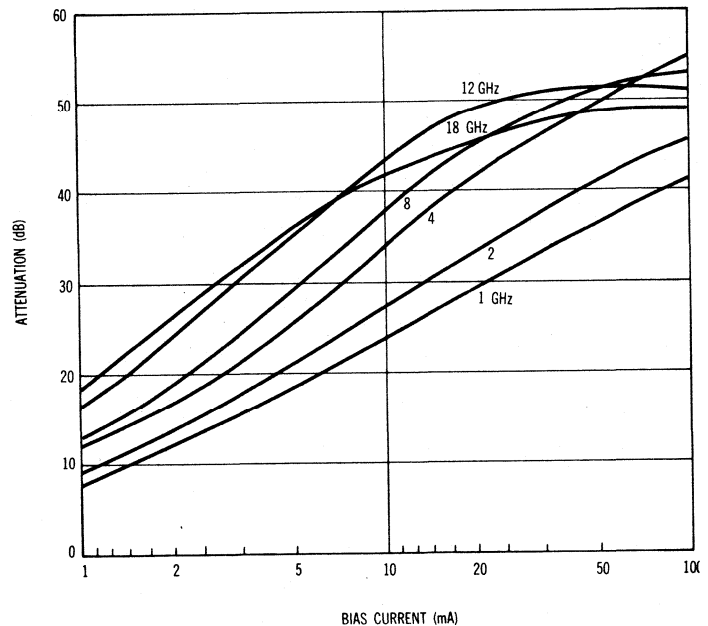

Figure 3. Typical attenuation vs. bias current
**Attenuation.** The HP 33535A switch exhibits no fine grain attenuation structure. Typical variation of attenuation as a function of bias current, frequency and temperature are shown in Figures 3 and 4.
The internal compensated microwave structure is not shown since it does not affect the low frequency bias currents. Bias can be applied to either center conductor. The switch is considered to be "ON" or passing an RF signal when the bias voltage is zero or a positive value. Under this condition the diodes are in a high impedance state and the current through them is typically less than one microampere. The switch is considered to be "OFF" or blocking an RF signal when the bias voltage is negative. Under this condition the diodes are forward biased and are in a low impedance state. The individual diodes are matched and the total bias current is divided equally between them. The magnitude of the forward bias current determines the degree of attenuation provided by the switch as shown in Figure 3. Maximum attenuation, or full